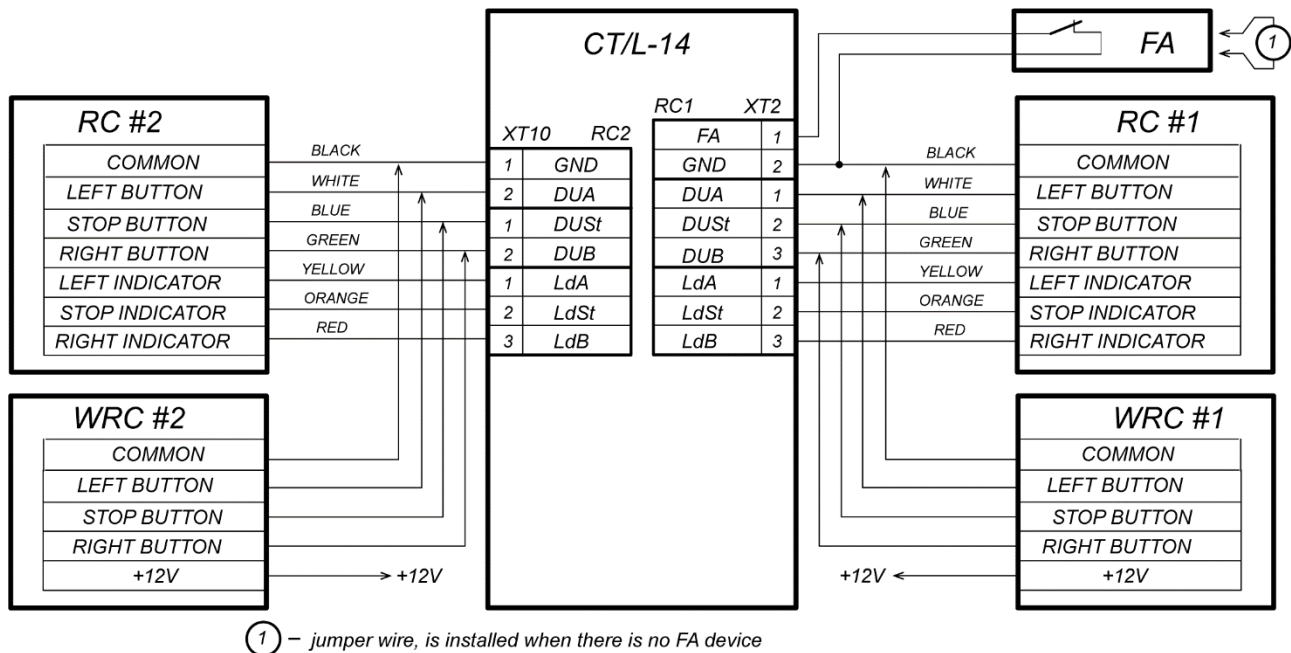

Figure 10. Connection layout of RC-panel or WRC of “Turnstile control” and “Vehicle checkpoint control” configurations
6. Connect RC-panel (or WRC) #1 to **XT2** terminal block of the lower board of the controller in compliance with the layout (Fig. 10).
7. Connect RC-panel (or WRC) #2 to **XT10** terminal block of the lower board of the controller in compliance with the layout (Fig. 10).
The RC-panel #1 is to be connected to the contacts of the **XT2** terminal block, the RC-panel #2 is connected to the contacts of the **XT10** terminal block (Fig. 10).